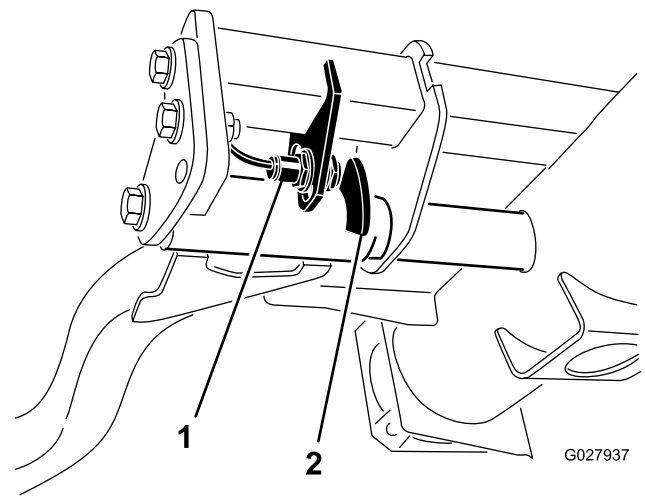

Figure 31
2. The lift arm switch is located underneath the hydraulic tank behind the front right lift arm (Figure 31).
3. Loosen the switch mounting screws (Figure 31) and move the switch down to increase the lift arm turn around height or move the switch up to decrease the lift arm turn around height. Tighten the mounting screws.